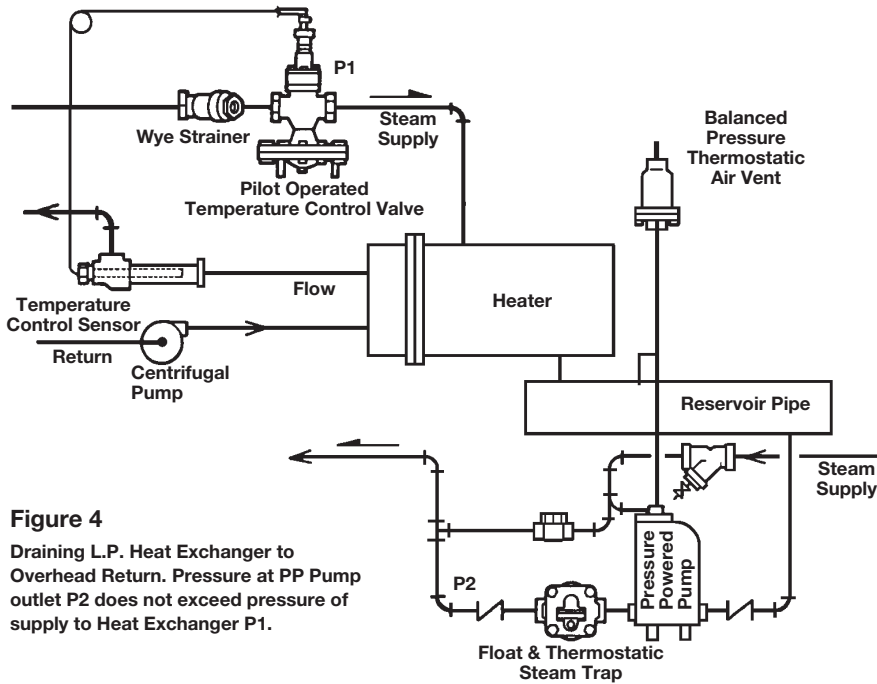

Figure 4
6. If at any time the backpressure against the pump is less than the pressure in the equipment being drained, a properly sized float and thermostatic trap must be installed between the pump and discharge check valve as shown in Figure 4.